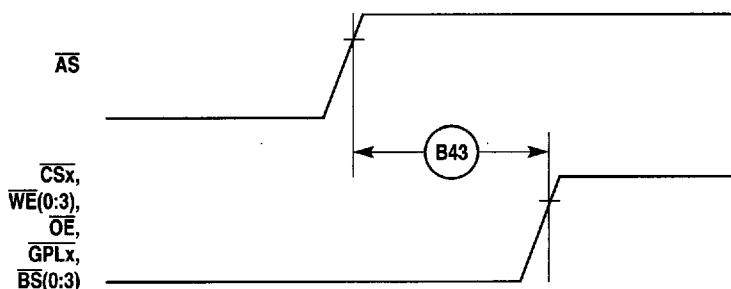

**Figure 20-18. Synchronous External Master Access Timing Diagram
8. The \overline{AS} signal is considered asynchronous to the CLKOUT. The timing B39 is specified to allow the behavior specified in Figure 20-18.